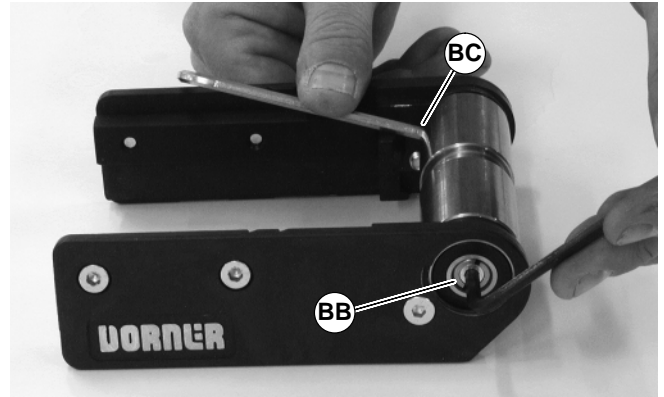

Figure 32
3. With 4mm hex-key wrench, loosen pulley taper screw (BB of Figure 32). Steady pulley with second hex-key wrench (BC) inserted into pulley hole. Repeat procedure for opposite side of pulley.